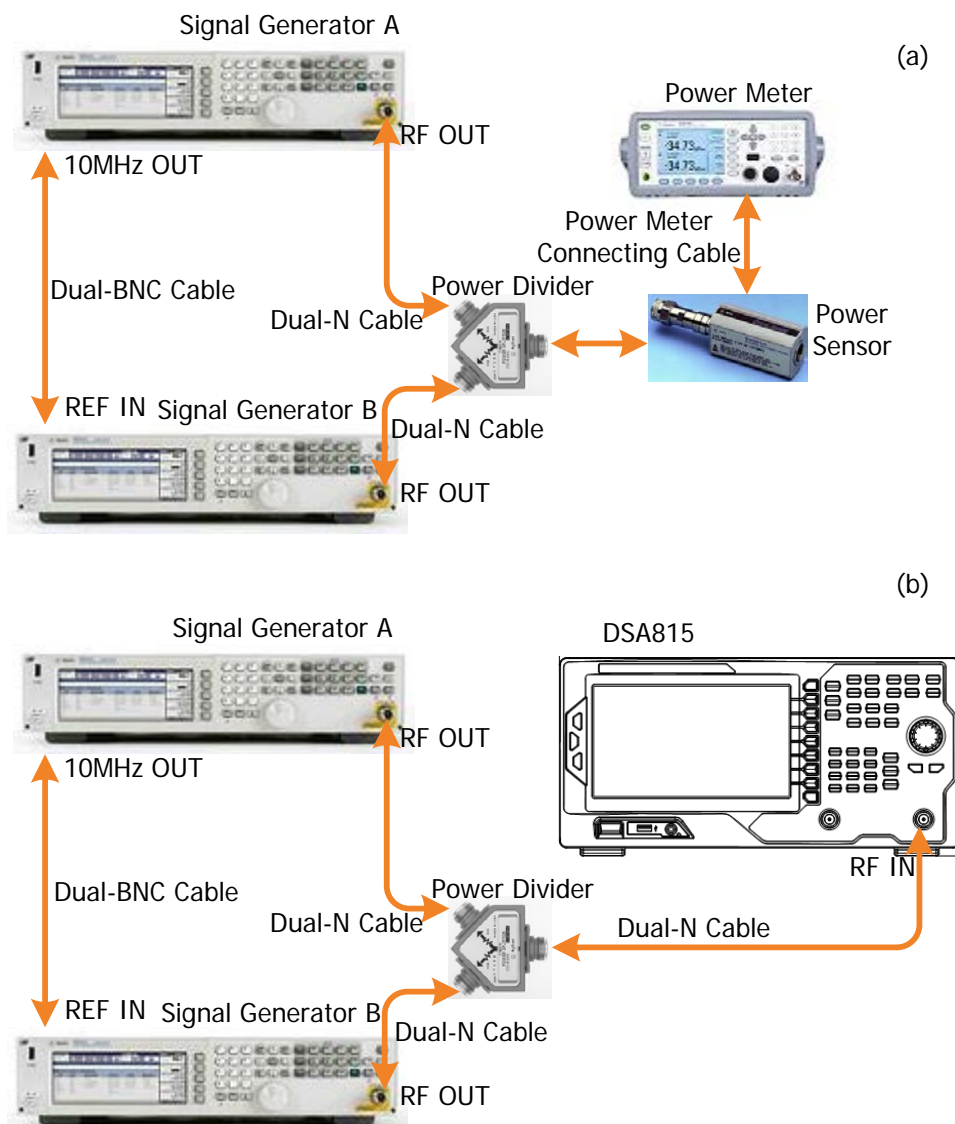

Figure 2-7 1 dB Gain Compression Test Connection Diagram
2. Synchronize the two signal generators. Connect the outputs of the two signal generators using the power divider and connect the power divider with the power sensor, as shown in Figure 2-7
- 6. Disconnect the power divider and power sensor and connect the power divider with spectrum analyzer, as shown in Figure 2-7 (b).